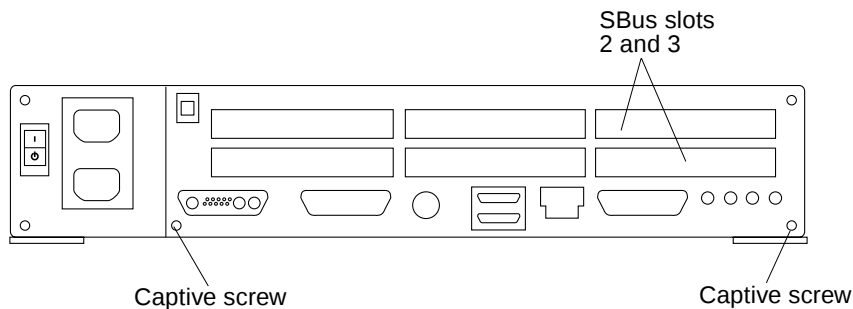

FIGURE 8-30 Back Panel SBus Slots and Captive Screws
5. Loosen the two captive screws on the back panel that secure the system board to the chassis (FIGURE 8-30).
4. Insert the front edge of the system board into the card guide. Lift the rear of the board slightly and slide it along the card guide until it is fully inserted (FIGURE 8-30).
7. Tighten the two captive Phillips-head screws that secure the system board to the chassis rear (FIGURE 8-30).